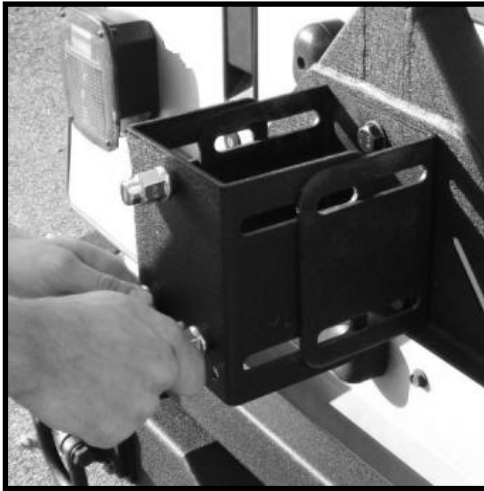
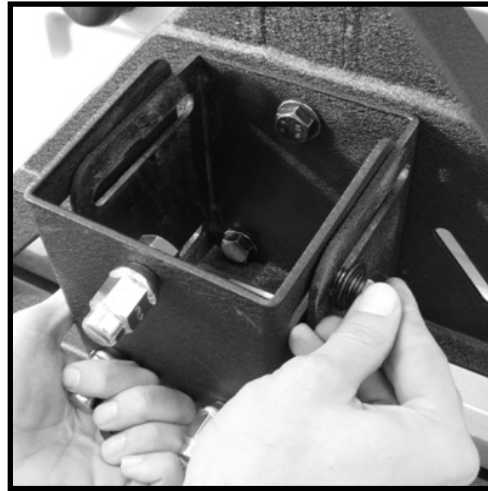
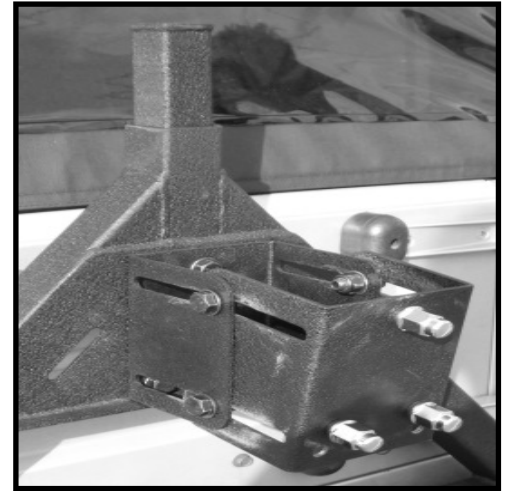

Figure 18.
Figure 19.
Figure 20.
15. Slide the tire mounting hub over the adjustment hub (Figure 18). Using a supplied M12 x 30 bolt and washer, slide the bolt assembly through both the adjustment and tire mounting hubs (Figure 19). Place another washer over the bolt and thread on an M12 nyloc nut. Repeat the above steps in the other 3 slots (Figure 20). Do not tighten the nuts and bolts at this time.